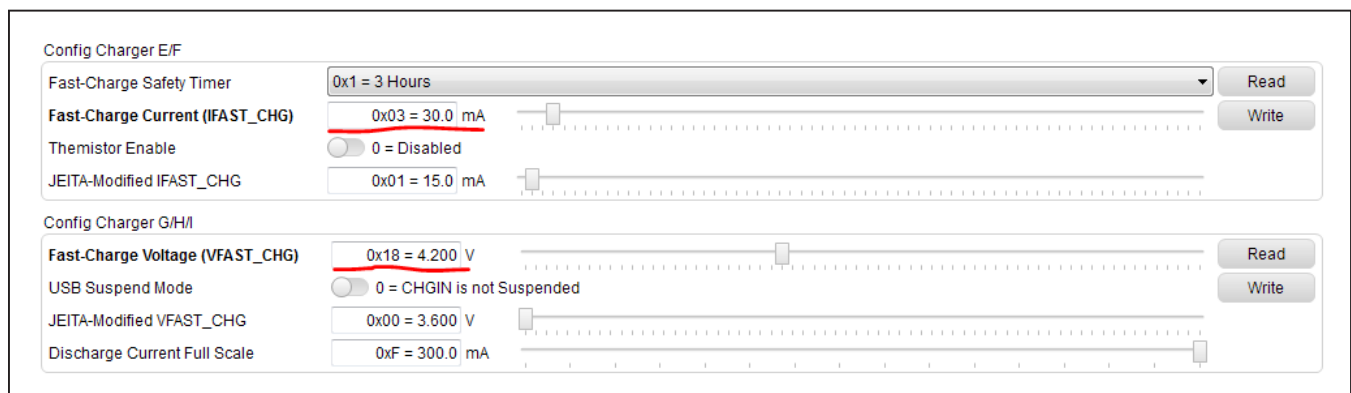

Figure 4. Quick Configuration of the Charger
- 13) In the GUI, set the VFAST_CHG register to 4.2V, set the IFAST_CHG register to some current that is safe for your battery (i.e., 30mA for a 45mAh cell). See Figure 4.